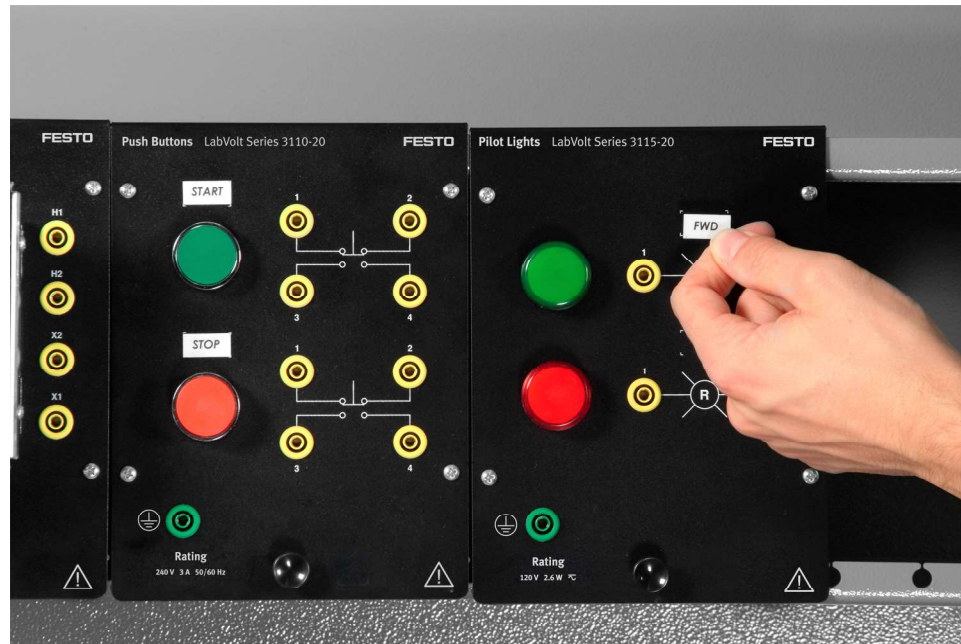

Figure D-5. Module identification.
7. Once the setup is completed, identify all buttons, pilot lights, switches, etc, in accordance with the circuit schematic diagram. Place the magnetic labels on the module faceplates as shown in Figure D-5.